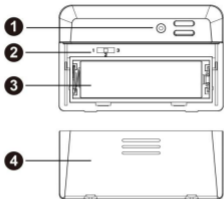

Figure 1
1. Remove the battery door on the back of one sensor by sliding the compartment door down, as shown in Figure 1.
Note: This device supports up to 3 sensors, to set each channel number, change Dip Switches 1, 2, 3 as referenced in Figure 1.